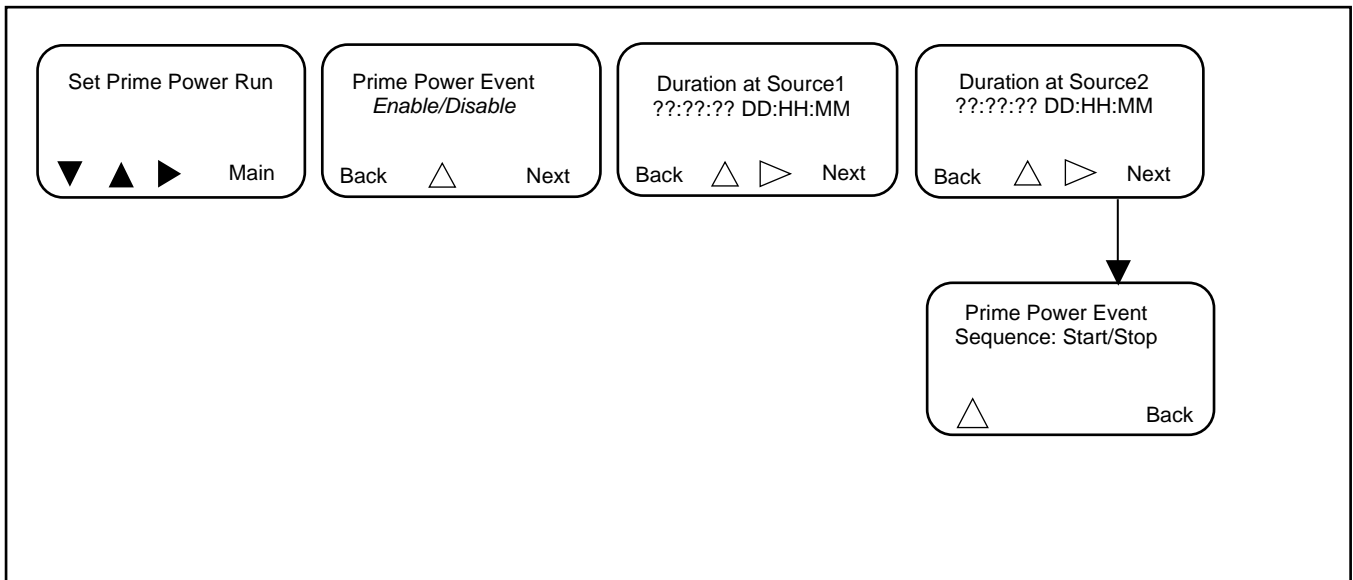

Figure 35 Set Prime Power Run Menu
- Navigate to the Set Prime Power Run menu. Enable the prime power event and program the S1 and S2 generator set run duration times in days:hours:minutes (i.e. how long each generator set runs before transfer to the other generator set). See Figure 35.